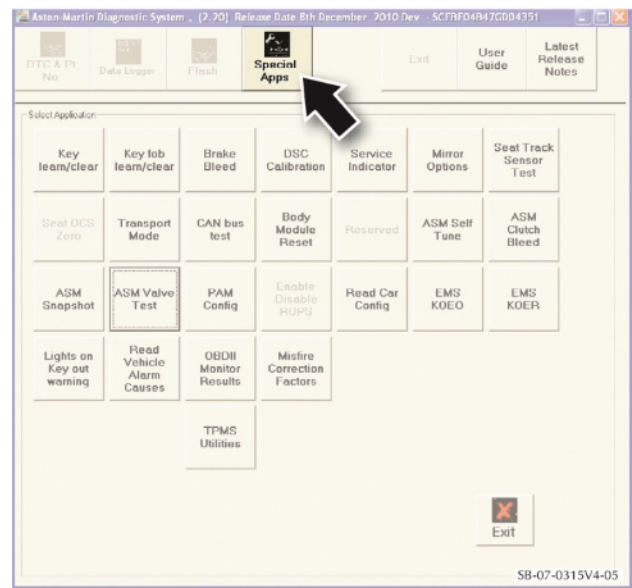

Figure 6
- Click on "Special Apps" (Refer to Figure 6).